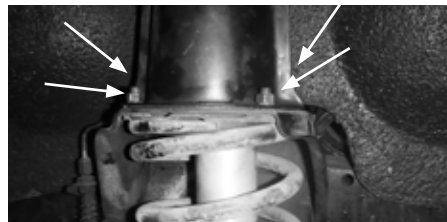

Fig. 2: Passenger side
4. Remove the (4) nuts securing the factory shock tower assembly to the vehicle (Fig. 2). (Do not discard nuts as they will be used with your new shock.)